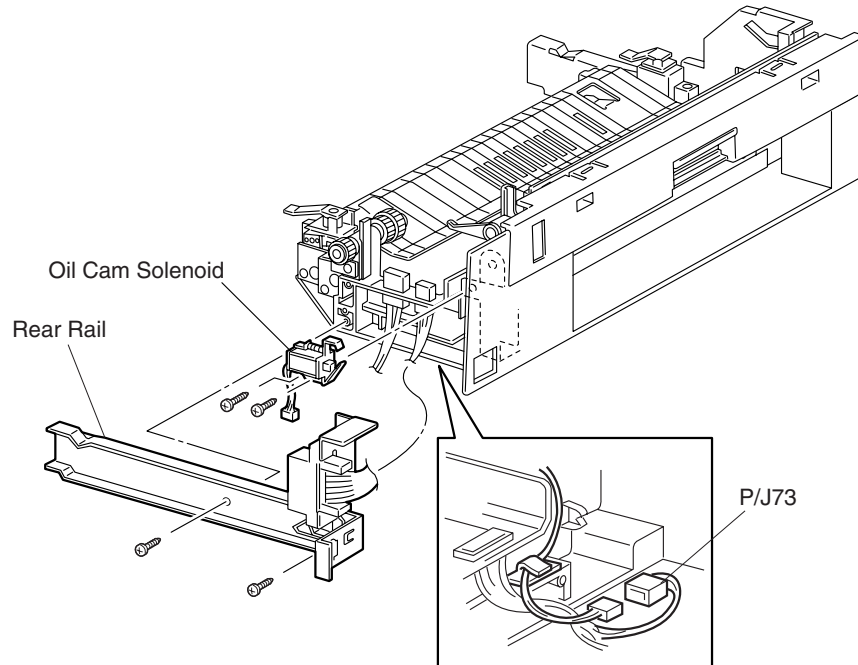

Figure 1
3. Remove the two screws securing the Fuser Rear Rail to the Fuser Tray and pull the Rail away from Tray (Figure 1).